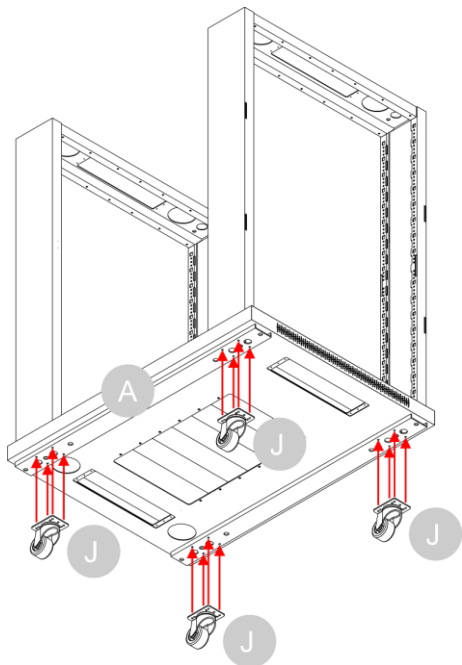

Fig. 21
05) Use a **hex key (R)** to attach the 4 **wheels (J)** to the bottom of the **bottom plate (A)** with 4 x 4 **screws (N)**, as shown in Fig. 21.